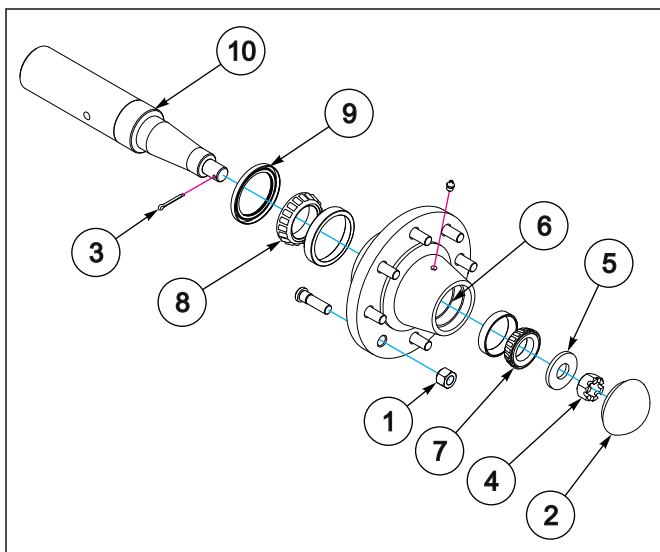

Figure 4-20: Wheel Bearing Assembly
2. Remove the 5/8-18 lug nuts (1) from the tire & wheel assembly.
3. Remove hub assembly from spindle as shown (See Figure 4-20.)
4. Remove the hub cap (2), cotter pin (3), slotted nut (4) and washer (5).
5. Remove the hub (6). Clean and inspect the bearings and hub cavity. Replace any worn or defective parts.
7. Slide the triple-lip seal (9) onto the spindle (10). Do not install the seal into the hub.
8. Slide the inner bearing cone (8) and hub onto the spindle.
9. Install the outer bearing cone (7), washer and slotted nut.